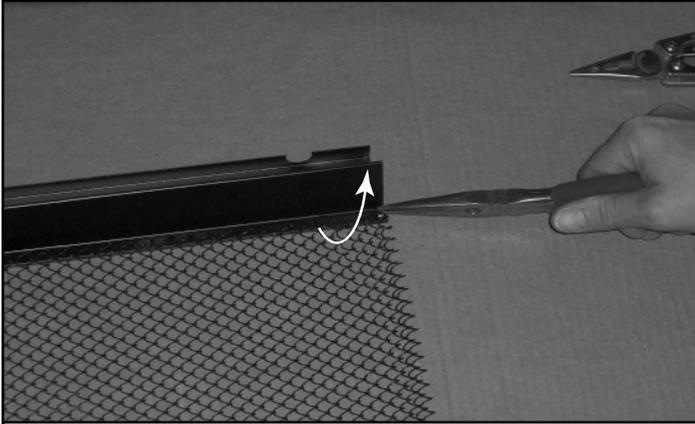

Figure 12.16 Bend Tabs to Hold Screen
- Bend tabs 90 degrees away from the screen with needle nose pliers to secure the screen to top grille. See Figure 12.16.